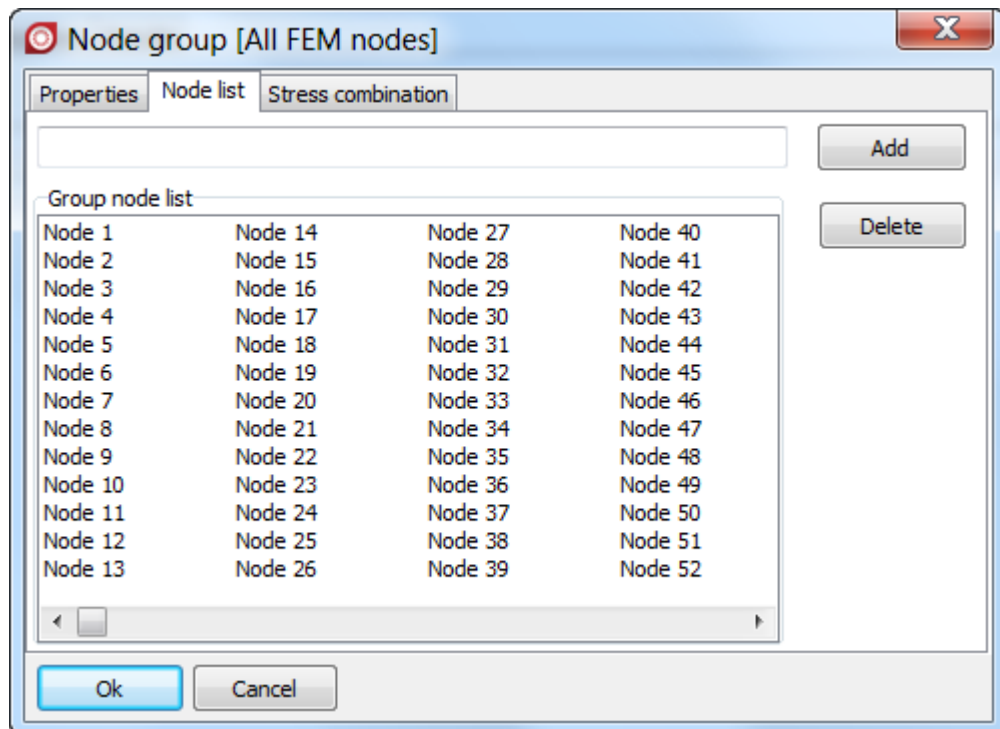

Figure 2.12. Node/sensor list of the **All FEM** data group
3. Sensor group properties window will be opened. Select the **Node list** tab to look at node list of the group, see Figure 2.12.